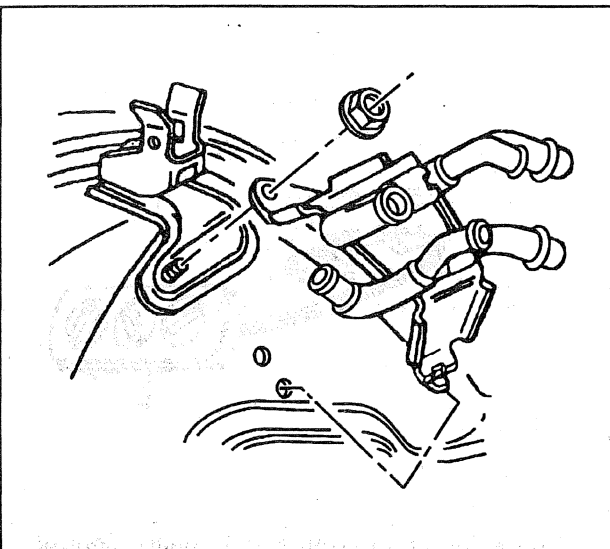

Figure 21—Auxiliary Heater Pipe
#### ↔ Remove or Disconnect (Figures 21, 22, and 23)
14. Nut (figure 21).
## Install or Connect (Figures 21, 22, and 23)
1. Auxiliary heater pipe (figure 21).